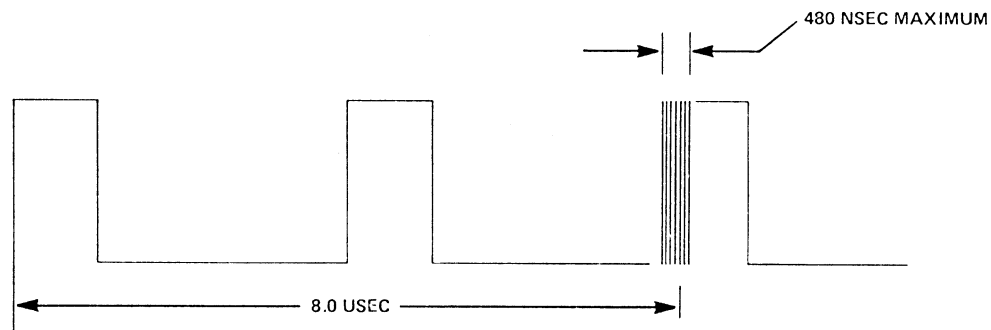

Figure 2-3
2.1.2.4 Observe the following pattern (see Figure 2-3).
- 2.1.2.5 Measure the amount of jitter present on the leading edge of the third pulse (see Figure 2-3). Jitter on the third pulse of greater than  $\pm 240$  nsec (480 nsec edge-to-edge) indicates excessive ISV.